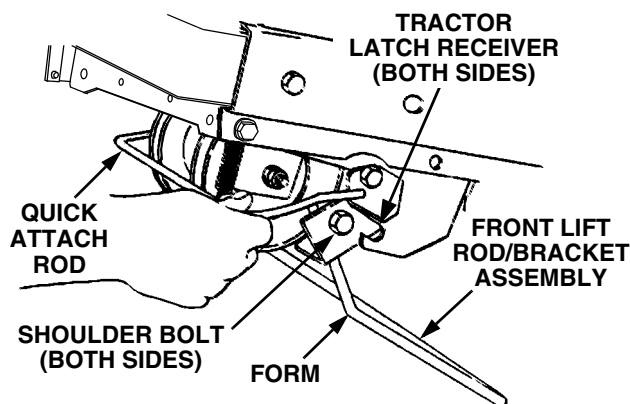

Figure 6-21
- Refer to Figure 6-21 to ensure the correct orientation of the front lift rod/bracket assembly [form (bend) in sides of rod point downward]. From the front of the tractor, push downward and hold the tractor quick-attach rod. Slide the shoulder bolts on each side of the front lift rod/bracket assembly fully into the left and right tractor latch receivers. Release the tractor quick-attach rod to capture the front lift rod/bracket assembly in the tractor latch receivers.